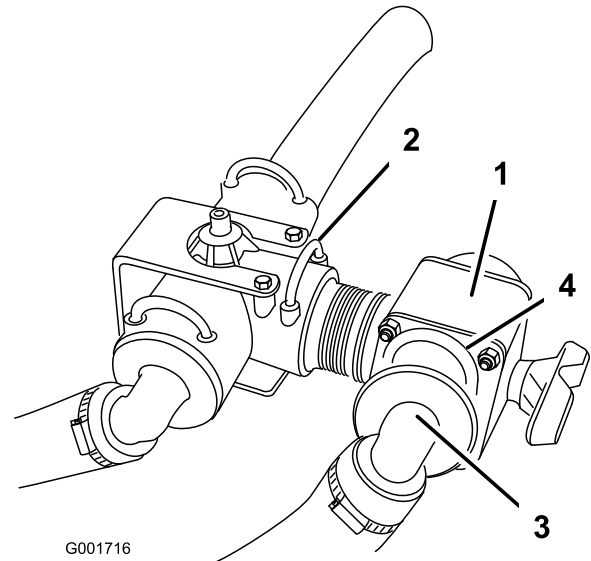

Figure 8
3. Install the new control valve into the open port on the supply tee and secure it with a new retaining fork (Figure 8).
4. Connect the boom supply hose to the open port on the control valve and secure it with the retainer removed previously (Figure 8).